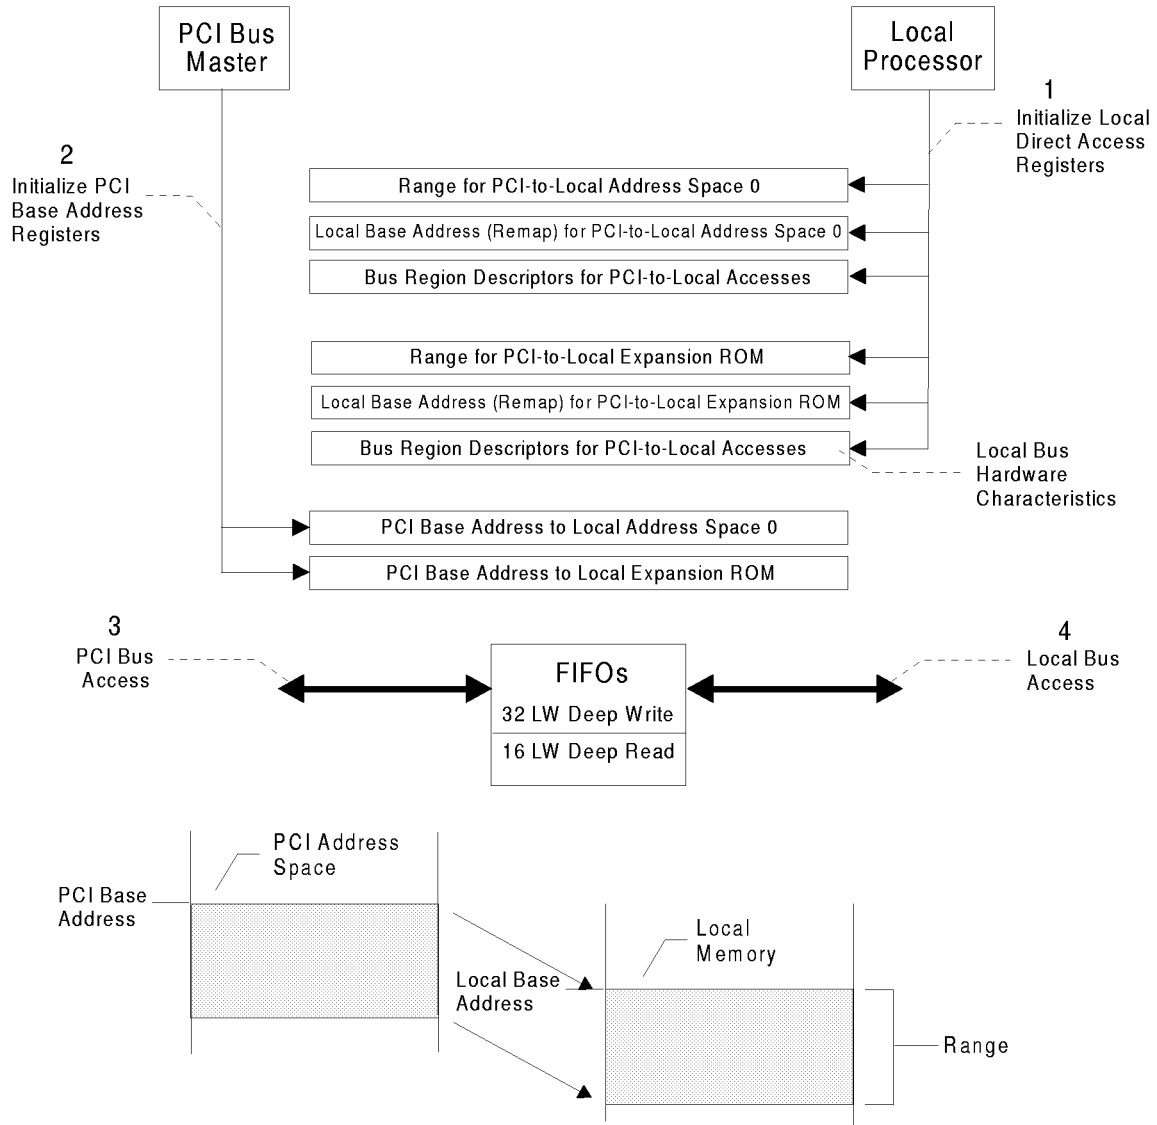

Figure 3-13. Direct Slave Access of Local Bus
A fourth register, Bus Region Descriptor for PCI-to-Local Accesses, defines the Local Bus characteristics for both regions (refer to Figure 3-13).
PCI reset software determines how much address space is required by writing a value of all ones (1) to a PCI Base Address register and then reading back the value. The PCI 9080 return zeroes in Don't Care Address bits, effectively specifying the address space required. The PCI software then maps the Local Address space into the PCI Address space by programming the PCI Base Address register. (Refer to Figure 3-13.)